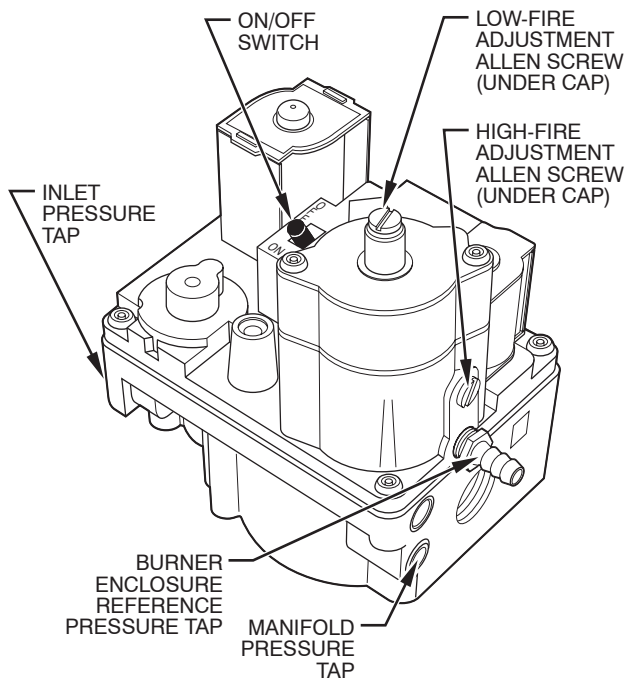

Fig. 51 – Redundant Automatic Gas Valve
- b. Remove regulator seal caps that conceal adjustment screws for low- and high-heat gas valve regulators. (See Fig 51.)